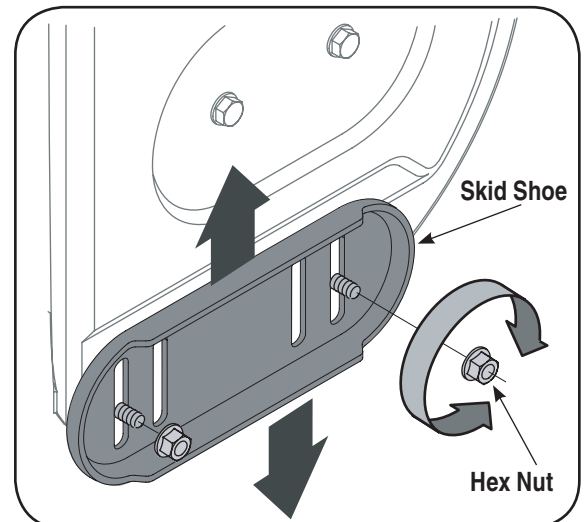

Figure 35
1. Loosen, but do NOT remove, the three hex nuts which fasten the skid shoe to the auger housing. See Figure 35.